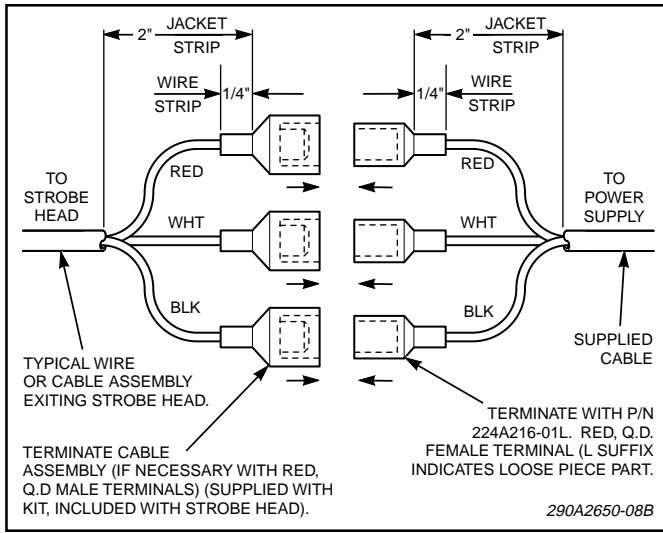

Figure 1.
Refer to figures 1 and 2 while completing the electrical connections.
c. When connecting to Models 602111, 601101, 602141, and GS1, connect the cables' conductors to the strobe-head units' conductors by matching the wire colors as shown in figure 1.